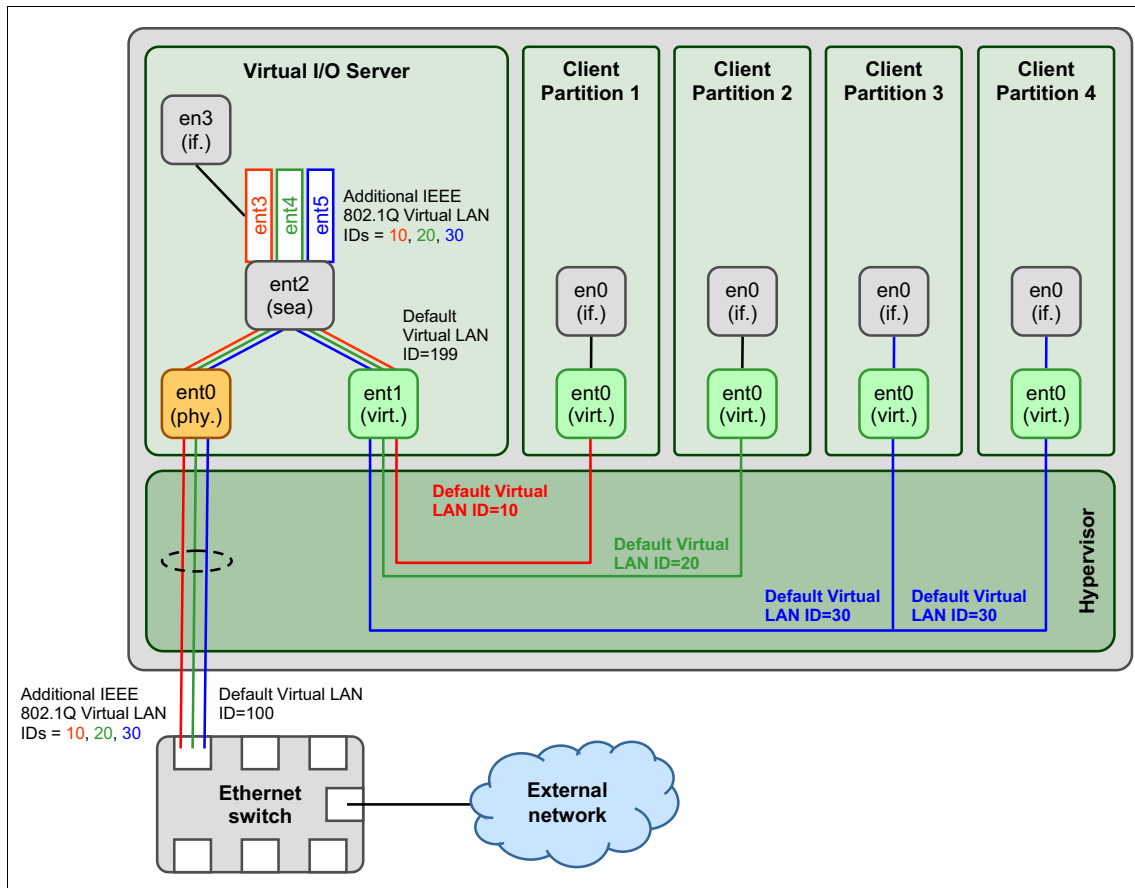
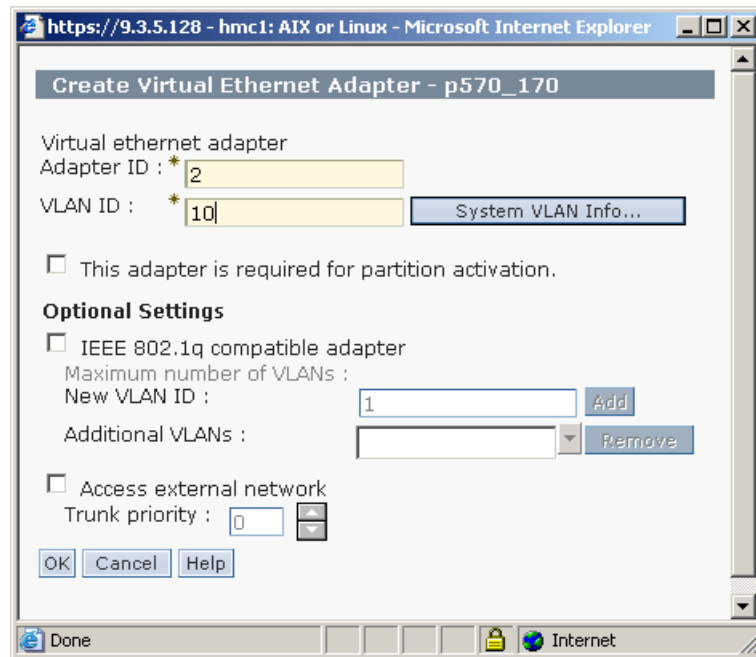

Figure 16-68 VLAN configuration scenario
Figure 16-69 Virtual Ethernet configuration for the client partition using the HMC
Figure 16-68 shows four partitions and a single Virtual I/O Server. In this example the VLAN interfaces are defined on an SEA adapter so that the Virtual I/O Server can communicate on these VLANs.
The following VLAN IDs 10, 20, and 30 are used. In addition, the default VLAN ID 199 is also used. This default VLAN ID must be unique and not used by any clients in the network or physical Ethernet switch ports, as in Figure 16-68. For further details, see “Ensuring VLAN tags are not stripped on the Virtual I/O Server” on page 585.
3. In the virtual Ethernet adapter window, assign each client partition a virtual Ethernet adapter with a default VLAN ID, as shown in Figure 16-68 on page 582. Make sure both the Access external network and IEEE 802.1Q compatible adapter flags are disabled. Figure 16-69 here shows an example of creating a virtual Ethernet adapter for client partition 1.
After the configuration completes, the VLAN ID on the virtual Ethernet adapter is added to the packets from the client partition. This ID is used to route packets to the correct partition. The Hypervisor will strip them off before delivery. For example, as shown in Figure 16-68 on page 582, client partition 3 and client partition 4 have the same VLAN ID, and thus are able to communicate directly. Client partition 1 and client partition 2 have different VLAN IDs, and thus are unable to communicate with client partition 3 and client partition 4 or with each other, but are ready to communicate with other machines on VLANs external to the machine.
The Virtual I/O Server is the relay point between multiple internal VLANs and the external physical Ethernet adapter or adapters and LAN. To bridge the virtual and physical networks, the Shared Ethernet Adapter (SEA) device is used to link one or more virtual adapters to the physical adapter. Using the scenario in Figure 16-68 on page 582, we implement a single virtual Ethernet adapter connecting to multiple internal VLANs.
3. Using the **mktcpip** command or the **cfgassist** command, configure an IP address on one of the new VLANs to allow administrators network access to the Virtual I/O Server. In this scenario, as shown in Figure 16-68 on page 582, we use en3, which resides on VLAN 10, to configure an IP address for Virtual I/O Server network connectivity.